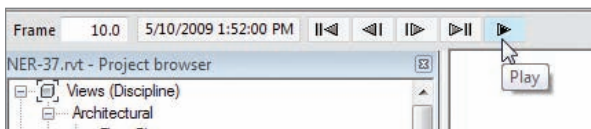

FIGURE 19.25 Clicking Play to start the solar study
13. On the Options bar, click the Play button, as shown in Figure 19.25.